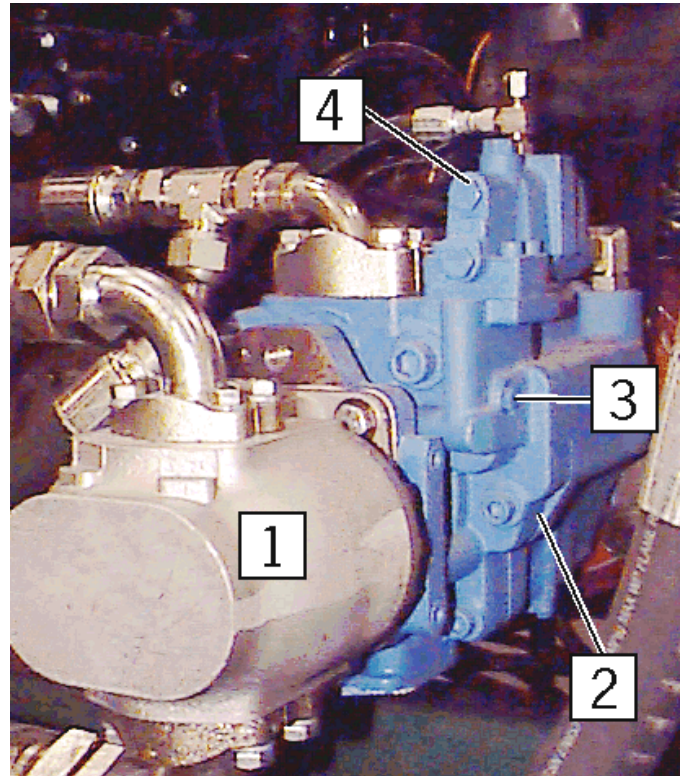

Fig. 7-1 Main Hydraulic Pump
1. Install a 5000 PSI (345 bar) hydraulic pressure gauge in the construction port of the main pump (item 3, fig. 7-1).